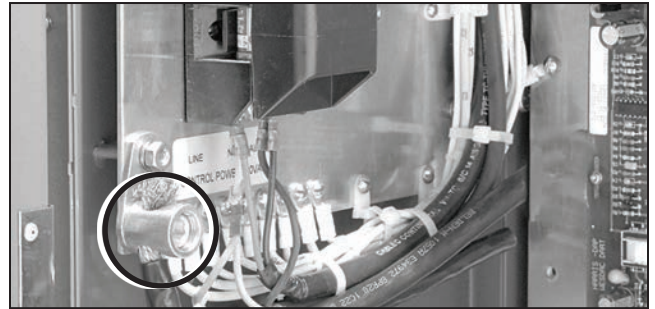

Figure 63. Copper lug and fuse block.
- (g) Connect the heavy-shielded cable to the copper lug on the low-voltage enclosure grounding plate. See Figure 63.
To connect external control power, connect the line and neutral to the fuse block. See label under the fuse block. Refer to Figure 63.